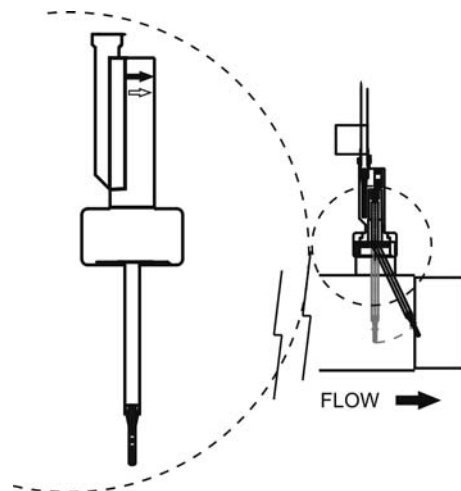

Fig. 11
3. There is an arrow on the head of the flow detector. Make sure that this arrow is parallel to the pipe shaft and pointing in the direction that the water flows (Fig. 11).